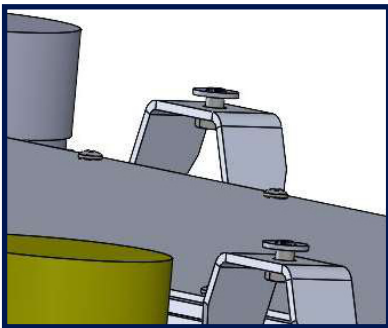
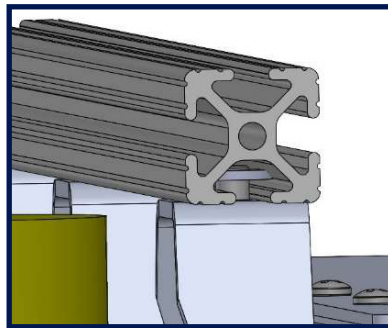

Figure 8A
Figure 8B
8. Mount 80/20 rails. Insert  $\frac{1}{4}$ -20 bolts from the bottom side of the rail brackets, and loosely screw into the T-slot nut (**Figure 8A**). Slide the rail onto the bracket ensuring the nut rides inside the groove of the rail (**Figure 8B**). Once the rail is resting on all three brackets, adjust the position of the rail to the desired location. Tighten down nuts to hold rail in place (**Figure 8C**). Repeat to other side.